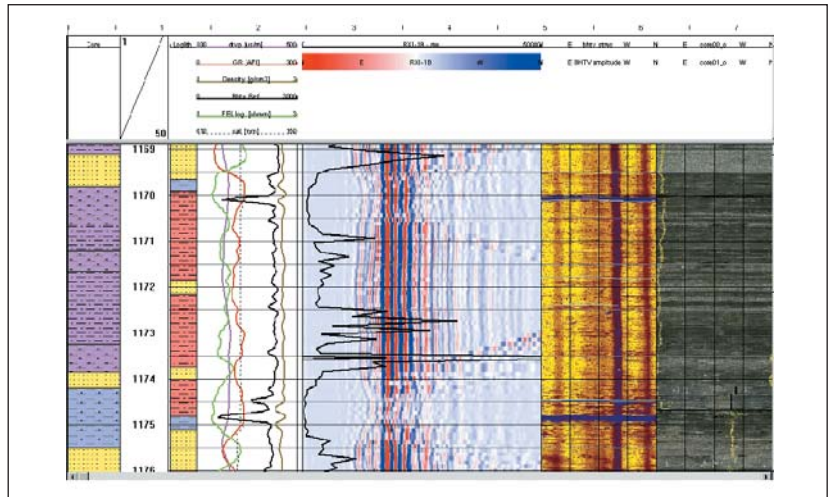
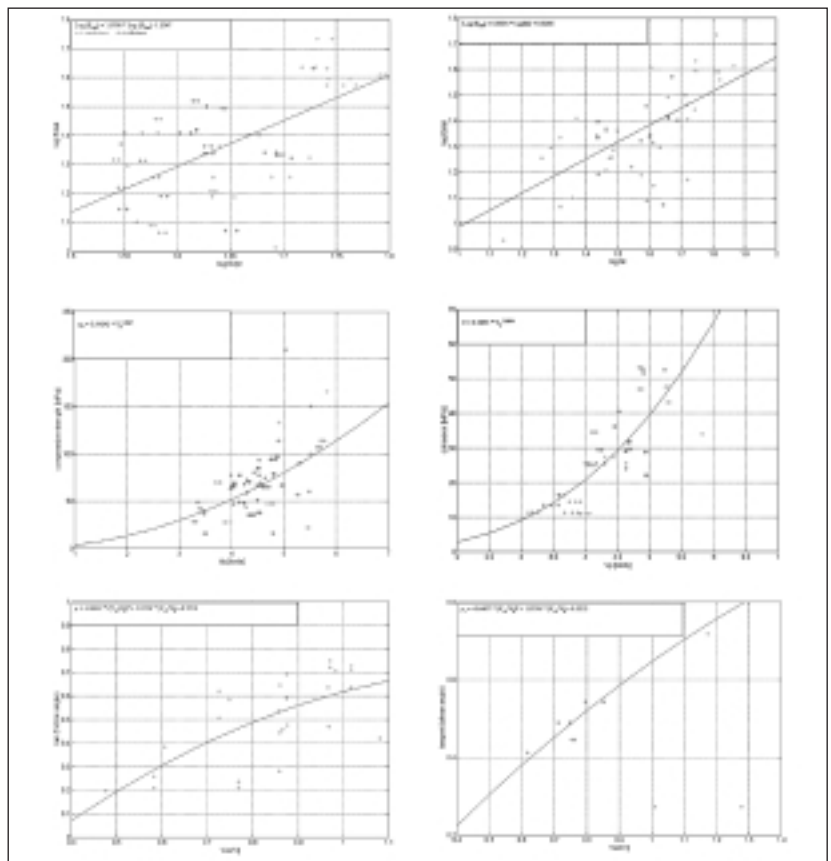

Fig. 6. The appearance of weakness zones (at 1170.05 m, 1174.6 m) in well logs.
Fig. 7. Correlation between rock mechanic parameter and seismic velocities
**Weakness zones:** Weak and permeable zones are characterised in full-wave-sonic seismograms as late reflections, and depth-time distributions show V-form (tube waves). These reflections are caused at the borders of two contiguous media with a big contrast in acoustic impedance (such as compact/porous-brecciated rocks). In Figure 6 the log data, acoustic amplitude image, optical core image and the seismogram of the first receiver are shown. Discontinuities, clearly seen in the acoustic image, cause the characteristic V-form reflections in the sonic seismogram. Other well logs than the acoustic image log do not always have obvious features in respect to weakness zones. The curve overlaying the seismogram represents the summation of wave energy within one period length along two up- and down declined straight lines, with the slope corresponding to the velocity of the tube waves (White, 1983). The higher the reflection from weakness zones, the higher the value of the stacked reflection energy. Coal seams show similar behaviour as weakness zones, since they also show big contrast in acoustic impedance to the surrounding rocks.
Linear and logarithmic relationships have been used as regression models (Schön, 1983, King, 1983). The best correlations achieved for logarithmic relationship (Figure 7) provide a regression coefficient of 0.33, which is small compared to the published data. In Figure 7 a cross plot the logarithms of the stiffness modulus  $M$  (calculated from borehole density and velocity measurements in axial direction of core samples) versus  $E_{stat}$  is shown. The scatter of  $M$  values is as high as  $E_{dyn}$ . However,  $M$  has higher correlation with  $E_{stat}$  ( $r^2 = 0.443$ ) than  $E_{dyn}$  with  $E_{stat}$  ( $r^2 = 0.33$ ). This can be explained by the high resolution of velocity measurements in the laboratory (frequency about 1 MHz in laboratory measurements as compared to 25 kHz in sonic measurements). The standard deviation of the error is 6.75 GPa in regards to the  $E_{stat}$  calculation from  $M$  and 7.77 GPa in regards to  $E_{stat}$  calculation from  $E_{dyn}$ . The high scatter of  $E_{dyn}$  and  $E_{stat}$  in rocks of low competence is mainly caused by heterogeneity of rocks (thin beds) as can be seen from the optical core image in Figure 6 and by the limited resolution of the sonic log. The selected core samples for laboratory tests are not representative for the rock volume investigation by borehole sonic measurements.
importance of correlation between seismic velocity and axial compressive strength has been early recognised by many researchers (in Schön, 1983). The most used regression models for correlation between  $\sigma_0$  and  $V_p$  are quadratic, logarithmic linear and exponential relationships. In Figure 7 the cross plots of the  $\sigma_0$  versus  $V_p$ , regression curve and regression parameters for an exponential relationship are shown. Generally the sandstone shows higher velocity and compressive strength than the silt/mudstone. The regression coefficient ( $r^2$ ) of 0.3 differs slightly from the other investigated models. The high deviations are caused by intercalation of thin layers, which could not be resolved by sonic measurements.
**Cohesion and friction angle:** In Figure 7 a cross plot of cohesion  $c$  derived by a 3-axial pressure test in the laboratory and seismic velocity  $V_p$  is shown. As with compressive strength, an exponential relationship between cohesion  $c$  and seismic velocity  $V_p$  is well satisfied. The standard deviation of the error is 9.3 MPa. As with compressive strength, the high deviations are mainly caused by samples from intercalated thin beds.
Investigating an idealised rock model utilizing a sphere packing model of equal radius, relationships between friction angle and velocities of seismic waves with different polarisation and propagation directions have been derived (Schön, 1983). In Figure 7 a cross plot of friction angle, derived by 3-axial pressure tests in laboratory, and the ratio of axial ( $V_{ax}$ ) to parallel P-wave velocity ( $V_{||}$ ), determined in the laboratory from acoustic measurements in axial direction of core samples and parallel to bedding planes is given. Stratified rocks such as silt/mudstone show high acoustic anisotropy compared to relatively homogenous rocks such as sandstone. An increase of friction angle is accompanied by an increase of the ratio  $V_{ax}/V_{||}$ . Sandstone shows higher friction angle than silt/mudstone. A similar relationship between shear angle, derived from direct shearing test, and the ratio  $V_{ax}/V_{||}$  can be seen. Neglecting core samples with a high  $V_{ax}/V_{||}$  ratio and low shear angle, which are caused by inclusions of iron carbonate (e.g. Siderite), the quadratic relationship is well satisfied. The sideritic nodules in silt/mudstone have been transmitted by acoustic measurements in axial direction but not in the bedding parallel direction.